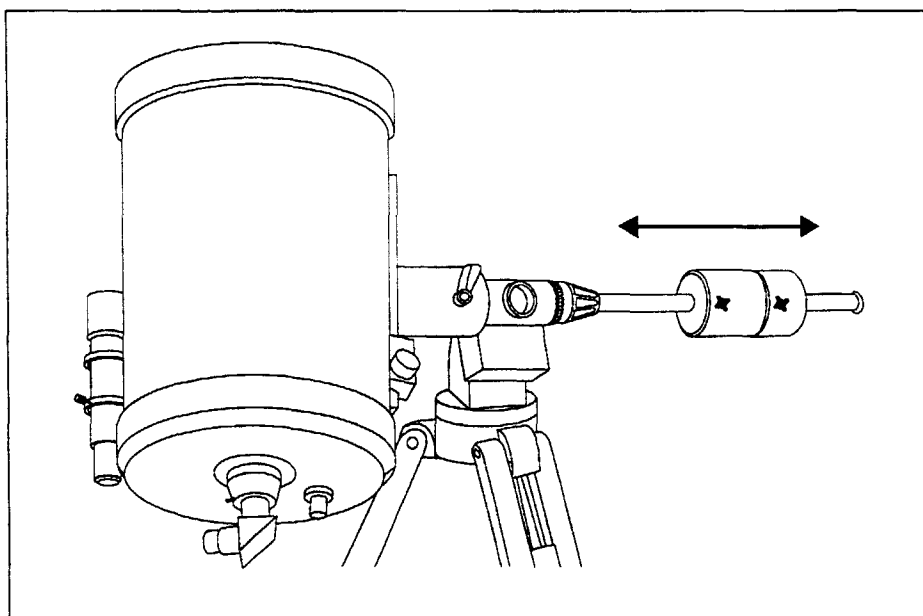

Figure 2-13
1. Release the R.A. Clamp and position the telescope off to one side of the mount (make sure that the balance bracket thumbscrew is tight). The counterweight bar will extend horizontally on the opposite side of the mount (see figure 2-13).